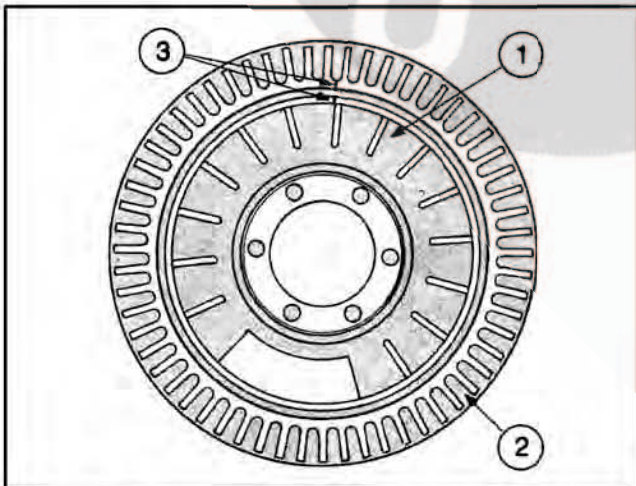

Fig. 2-39, (OM1066L). Vibration damper alignment marks
The damper hub (1, Fig. 2-39) and the inertia member (2) are stamped with an index mark (3) to permit the detection of movement between the two components.